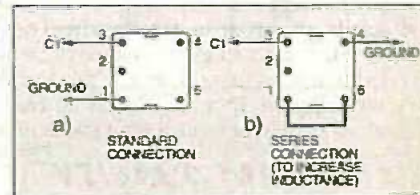

Fig.4. Connections to Toko coils listed in Table 3.
- (4) See Table 1 for details of the r.f. stage coils.
- (5) The coil reference numbers are for Toko inductors. See Fig.4 for details of the base connections.
Padder capacitor C1 limits the swing of tuning capacitor VC1. Trimmer VC2 permits the matching of minimum capacitances in the r.f. and oscillator circuits, and C2 is required to ensure correct tracking only on the long and medium wave bands. Suitable Toko inductors and capacitor values are listed in Table 3. Oscillator coil connections are shown in Fig.4.